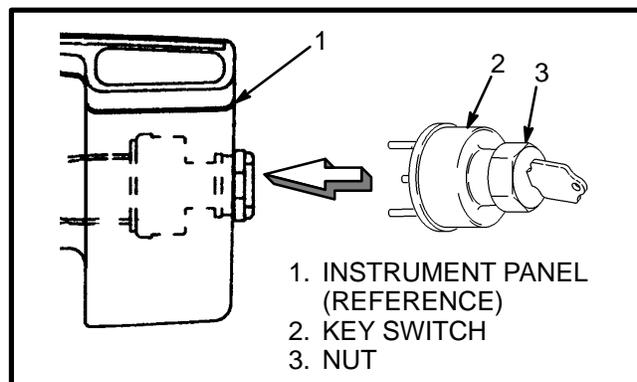

FIGURE 7 – KEY SWITCH
Key Switch (See FIGURE 7)
3. Remove the nut that fastens the key switch. See FIGURE 7. Remove the key switch from the housing. Make a note of which wires are on which terminals and disconnect the wires. Install the wires on the same terminals of the replacement switch.